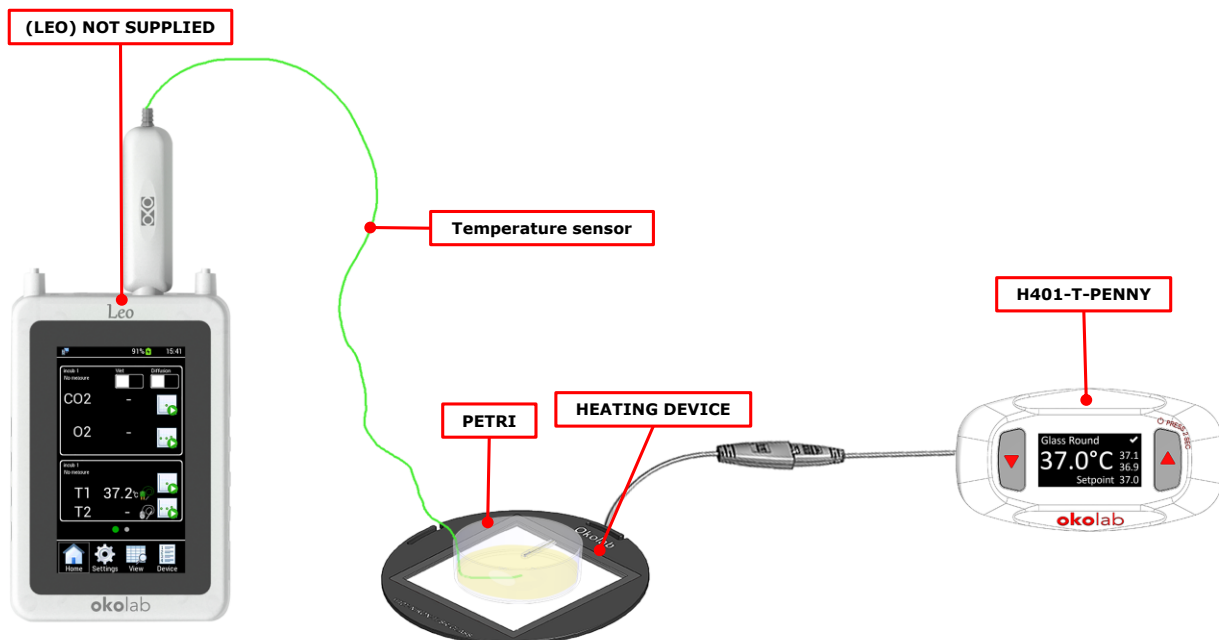
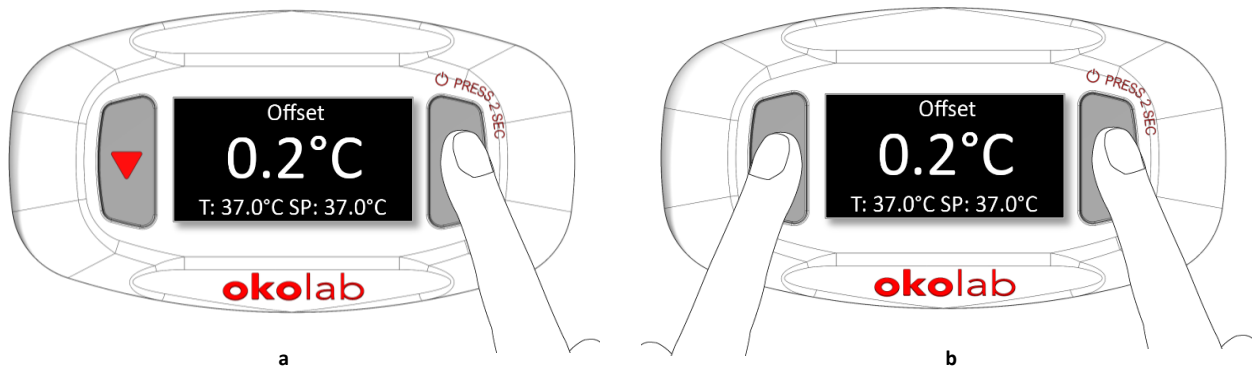

Figure 20. H401-T-PENNY: manual calibration with LEO
Figure 23. Insert the Device Offset value (a - b).
4. Place the petri-dish on the center of the heating device, as shown in Figure 20.
9. Insert the offset value by pressing UP or DOWN button, as shown in Figure 23 a and press UP & DOWN buttons at the same time for 1 second to save (see Figure 23 b).
**Tip** ► Okolab recommends introducing as offset value the difference between the actual temperature measured by the independent T Sensor and the Setpoint temperature. In the example shown in Figure 20, LEO reports 37.2°C and H401-T-PENNY reads 37°C, the Offset value will be 0.2°C, as shown in Figure 23.